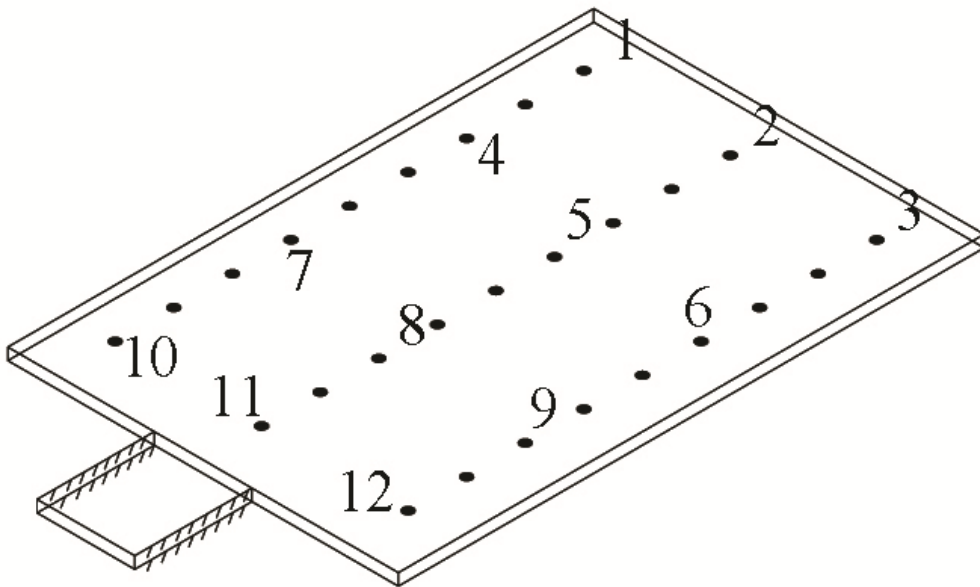

Fig 2
3. Simulation the transfer function in the frequency domain, giving a hammer force 100N to the point 5, getting the acceleration response in the point 2. (See Fig 2)